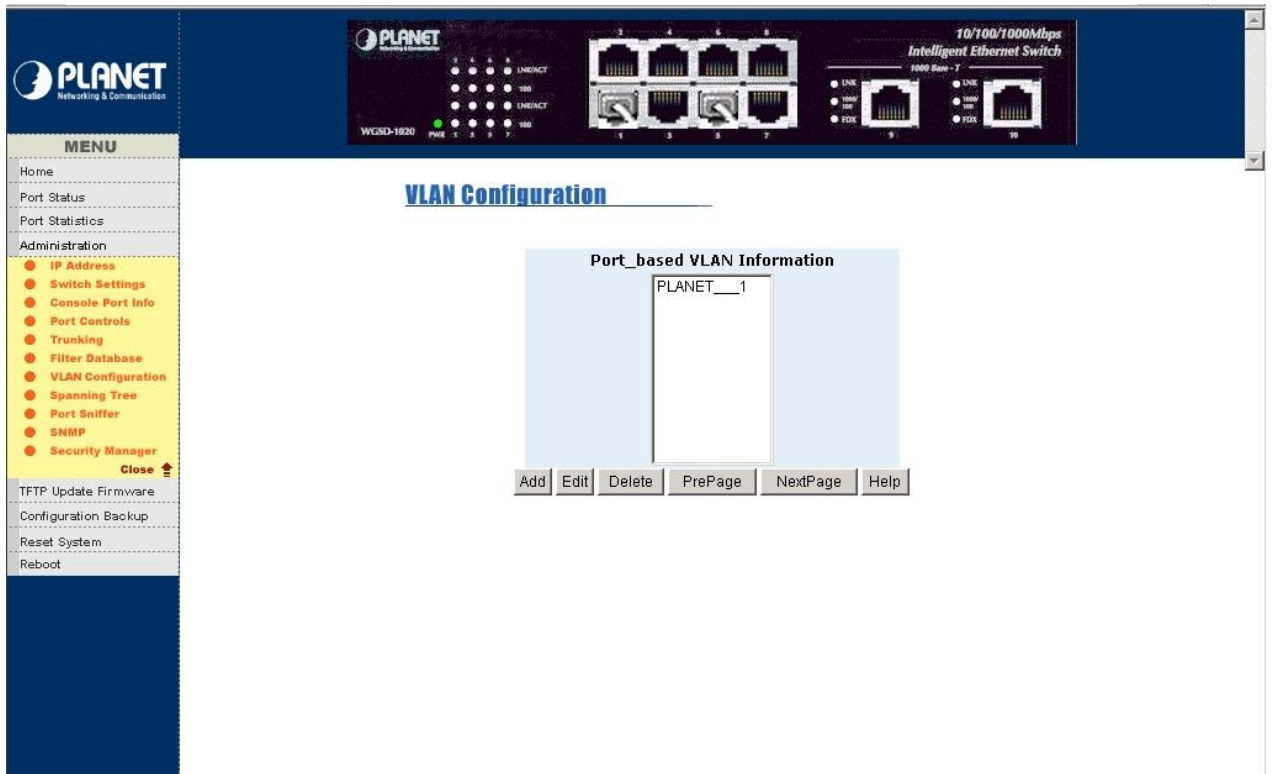

Figure 5-32 WGSD-1020 Port Based VLAN setting successful Web Page screen
4. Click **“Apply”** to take effect. The following screen in Figure 5-32 appears.